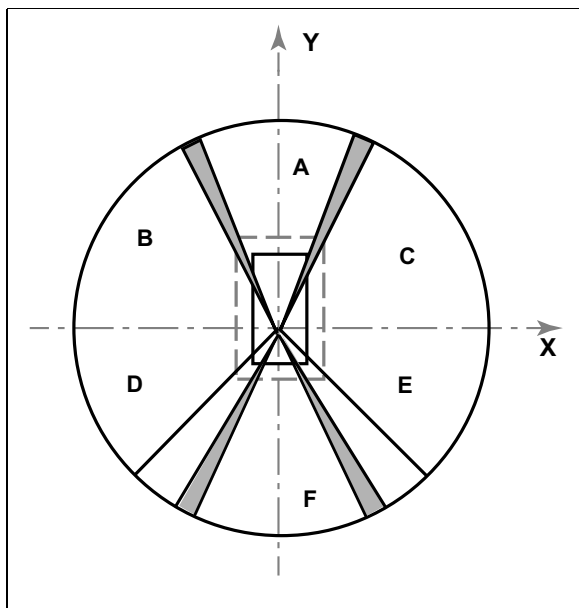

Fig. 6 – Visibility Performance
- Masking was recorded as shown (Fig. 6), and is within the allowable limits in accordance with ISO 5006:2017.